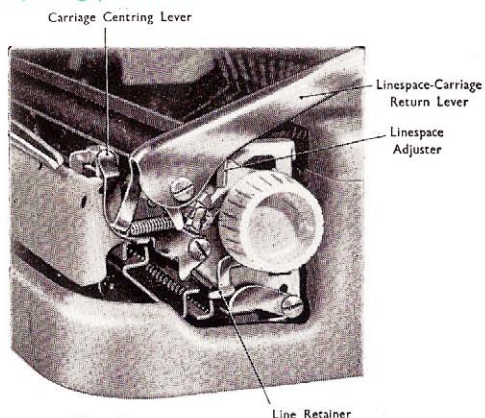

Figure 2
13. **Linespace-Carriage Return Lever.** After finishing a line, a stroke on the linespace-carriage return lever not only returns the carriage to the starting point but spaces the paper up for the next line. If you want your typing two lines apart, just move the linespace adjuster (Fig. 2) forward to the double spacing position.
**Line Retainer** (Fig. 2). When you wish to vary line spacing for filling printed forms, or for typing subscripts or exponents, raise line retainer up, and space paper by turning platen knobs. When ready to return to original line-spacing, press retainer down again.
**Replacing Machine in Case.** When you are not using your Empire-Corona put it back in the carrying case to protect it from dust and dirt. To do this: (1) see that the carriage is down in the small-letter position (not the capital position) and that the paper bail and paper support arms are down; (2) centre the carriage by moving it to the left and then holding the centring lever (Fig. 2) back and down while pushing the carriage to the right as far as the centring lever permits. Now place the machine in its case, close the cover, and pull both zipper-tabs around to the front of the machine, thus closing the case.